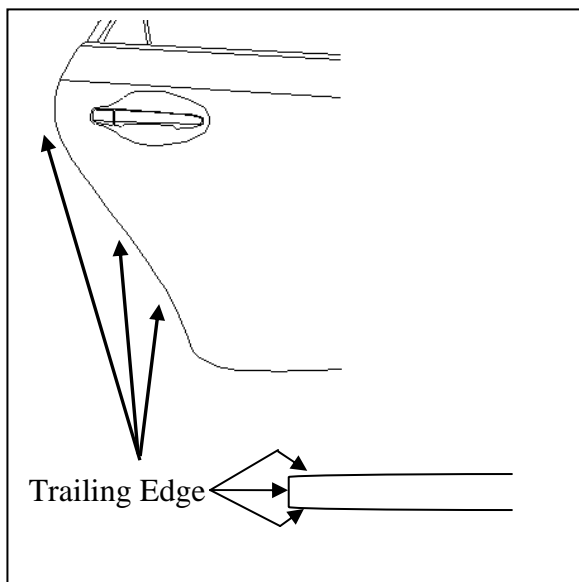

Fig. 1-1
- i. Spray 3~4 pumps of Simple Green onto lint free towel and pinch the wet towel between your thumb and forefinger while running along the length of the door edge to clean the inside and outside of the trailing edge of door. Make several passes to ensure the wax and oil has been removed. (Fig. 1-1)